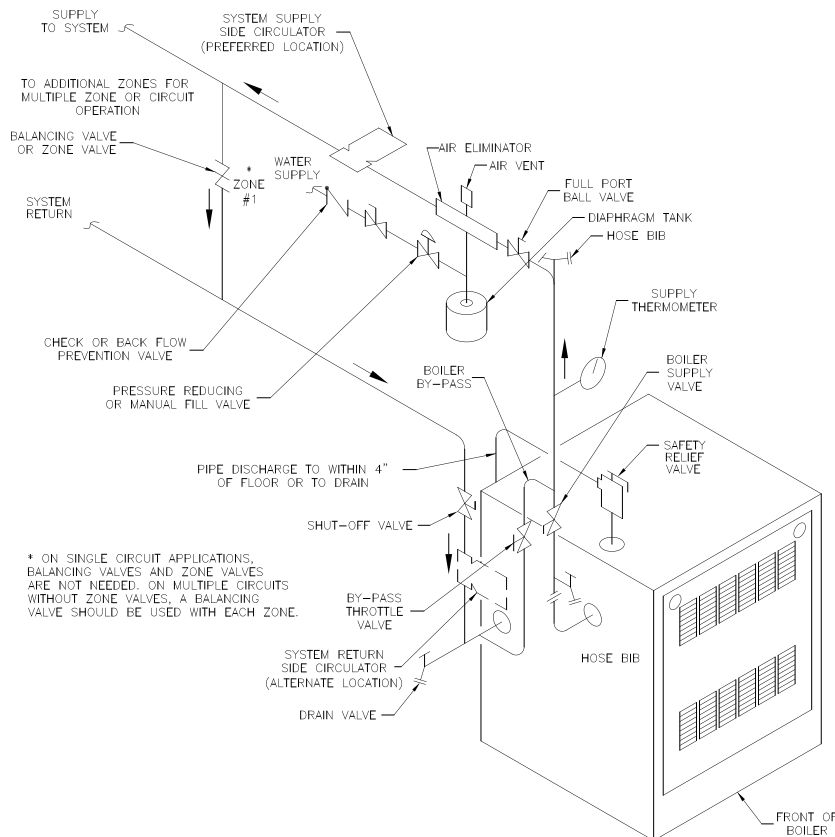

Figure 3: Recommended Water Piping for Zone Valve Zoned Heating Systems
- E. For heating only system piping, see Figure 3. Consult also I=B=R Installation Guides.
Install a pipe tee at the boiler return along with a second tee in the supply piping as shown in Figure 3. The bypass should be the same size as the supply and return lines with valves located in the bypass and supply outlet as illustrated in Figure 3 in order to regulate water flow to maintain higher boiler water temperatures.